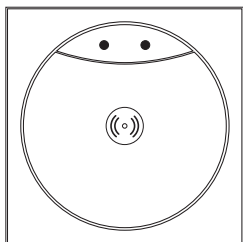

Fig. 1
- Reader unit with back panel cover and screws (Fig. 1)